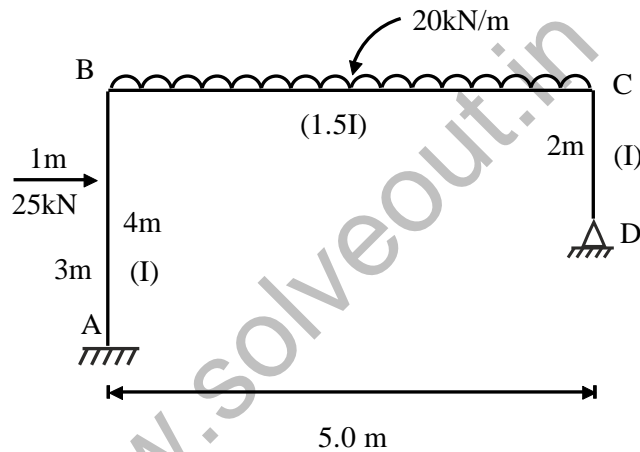

Fig:1
1. Analyse the frame shown in fig : 1 using Kani's method and draw its BMD. 14